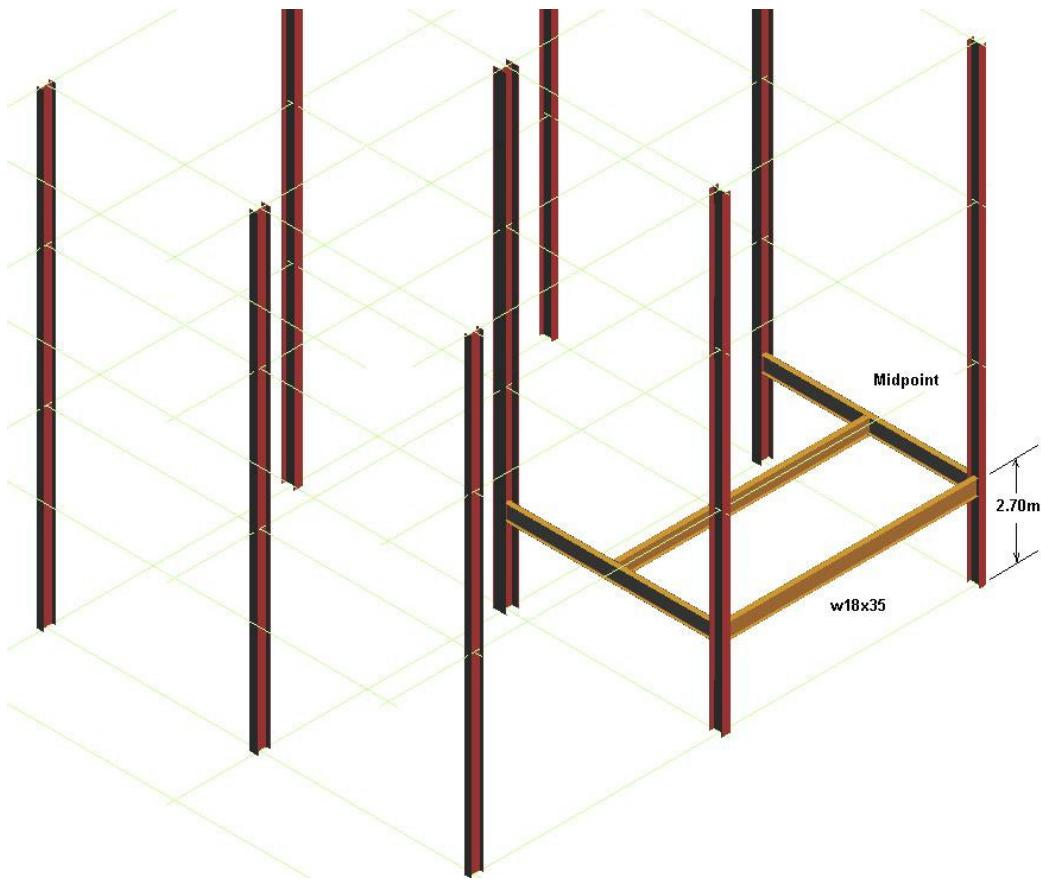

Figure 11 – ISO View of U03
43. Place four horizontal beams on the far-east bay as shown in Figure 11